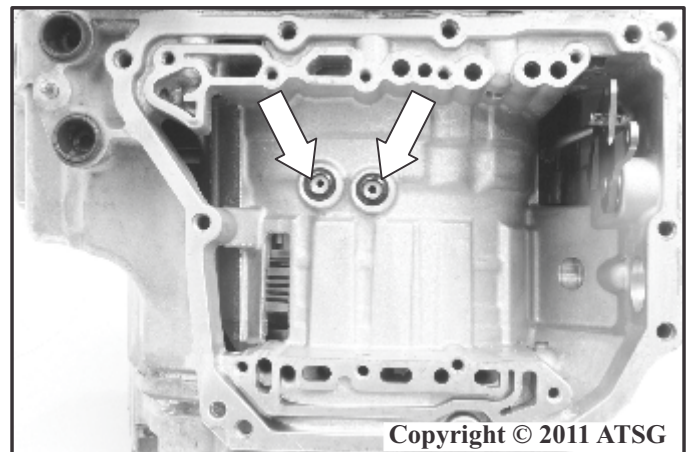

Figure 247
88. Rotate the transmission and install the two case fluid passage seals into the transmission as shown in Figure 247.